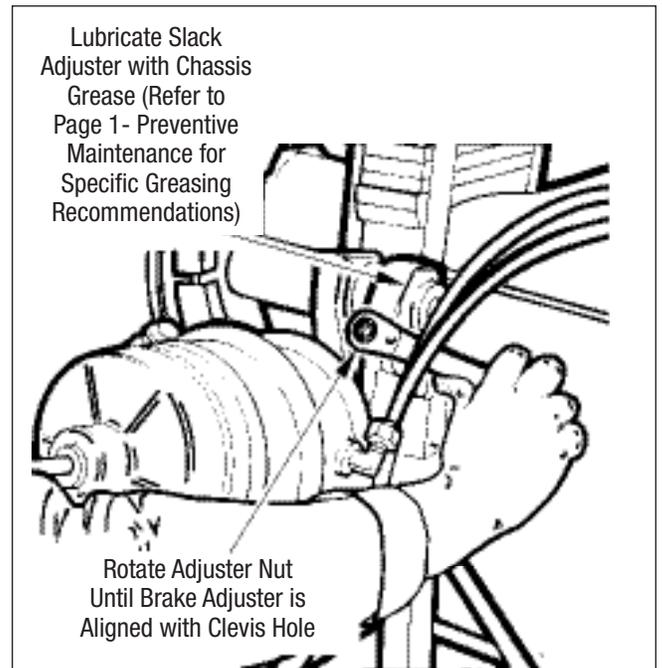

Figure 11 - Brake Adjuster Lubrication and Adjustment
10. Pressure lubricate the brake adjuster according to the manufacturer's instructions. Pressure lubricate the air chamber bracket until grease flows out of brake adjuster end of the tube (*refer to Figure 11*).